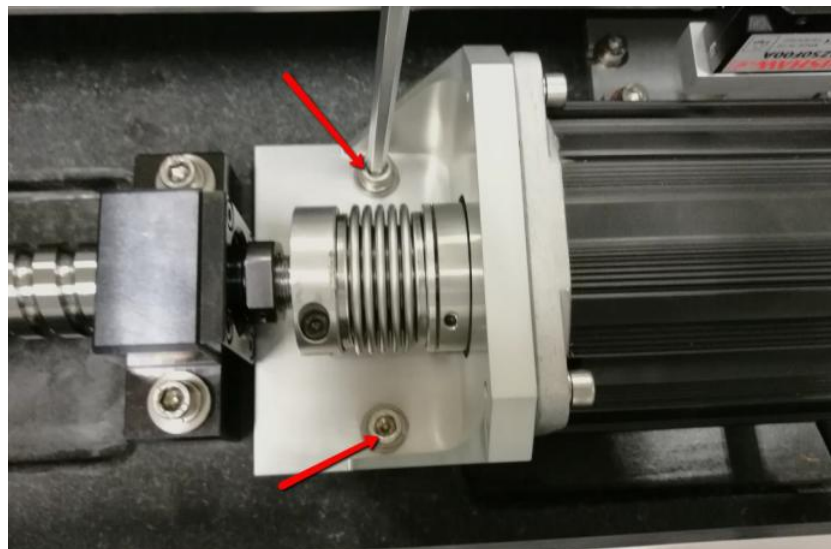

Figure 38 Y axis Motor Mount
40. Hand tight 2 x screws as below Figure 38.